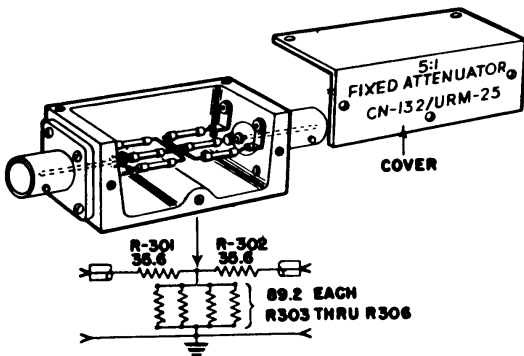

Figure 2-15. (5:1) Fixed Attenuator CN-132/URM-25 with Schematic Diagram Shown
(See figure 2-15).
b. The schematic diagram and outline draping of the 5:1 fixed attenuator is shown in figure 2-15. It is designed to be used when the input impedance of the receiver under test is 53.5 ohms and consists of four resistors (R-303, R-304, R-, 05, R-306) connected in parallel to give an equivalent resistance of 22.3 ohms. These parallel resistors are then connected with two 35.6 ohms resistors to form a "T" network. It can readily be calculated that the output terminal voltage of this attenuator unit will be one fifth its input voltage when the CN-132/URM-25 is properly terminated in 53.5 ohms. It therefore follows that the voltage output from the fixed attenuator will be one fifth the voltage indicated by M-101.